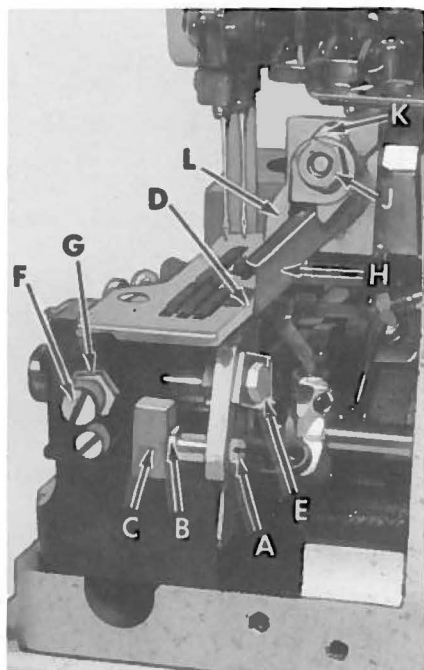

Fig. 16
Replace the lower knife holder assembly. In replacing the lower knife holder assembly, tighten screw (A, Fig. 16) so that when the face of the flange on sleeve (B) seats against throat plate mounting bracket (C), a free lateral motion of the lower knife and holder assembly is obtained when the knife is manually pressed at its upper corner. Lower knife (D) should be set with cutting edge flush with top of throat plate. Adjustments are made with hexagonal head screw (E) which holds the lower knife. Lower knife is spring pressed against the upper knife, so no lateral adjustment is necessary when the width of trim is changed.
Replace the upper knife assembly. Clamp upper knife (H, Fig. 16) in position, setting nut (J) to hold clamp (K) in its most clockwise position against upper knife. At the bottom of its stroke, front cutting edge of upper knife should extend not less than $\frac{1}{64}$ inch (.40 mm) below cutting edge of lower knife. The chain guard (L) should be set down against the upper knife and slightly back from the cutting edge.